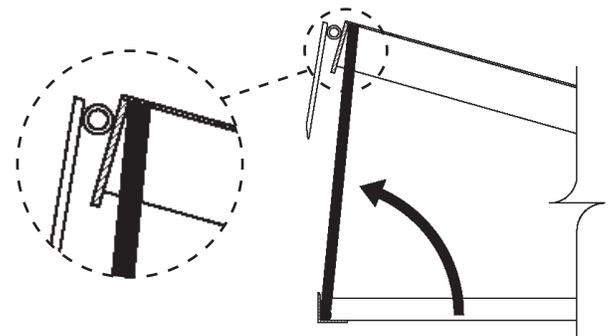

Figure 16
6. Using an external lifting device, raise dock leveler platform to a height that will allow use of the maintenance prop. Raise the maintenance prop to the service (upright) position behind the platform header as shown in Figure 16 and lower the platform:
8. Using an external lifting device, raise dock leveler platform and then store the maintenance prop. Lower the platform into the cross traffic position (lip fully folded, inside the keepers, and the platform level with the dock floor) as shown in figure 16: